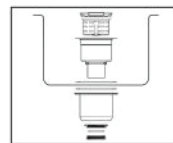

FIGURE 6
10. Wipe away excess silicone caulk with damp cloth. Connect drain and water supply according to manufacturer's instruction.(FIGURE 6)